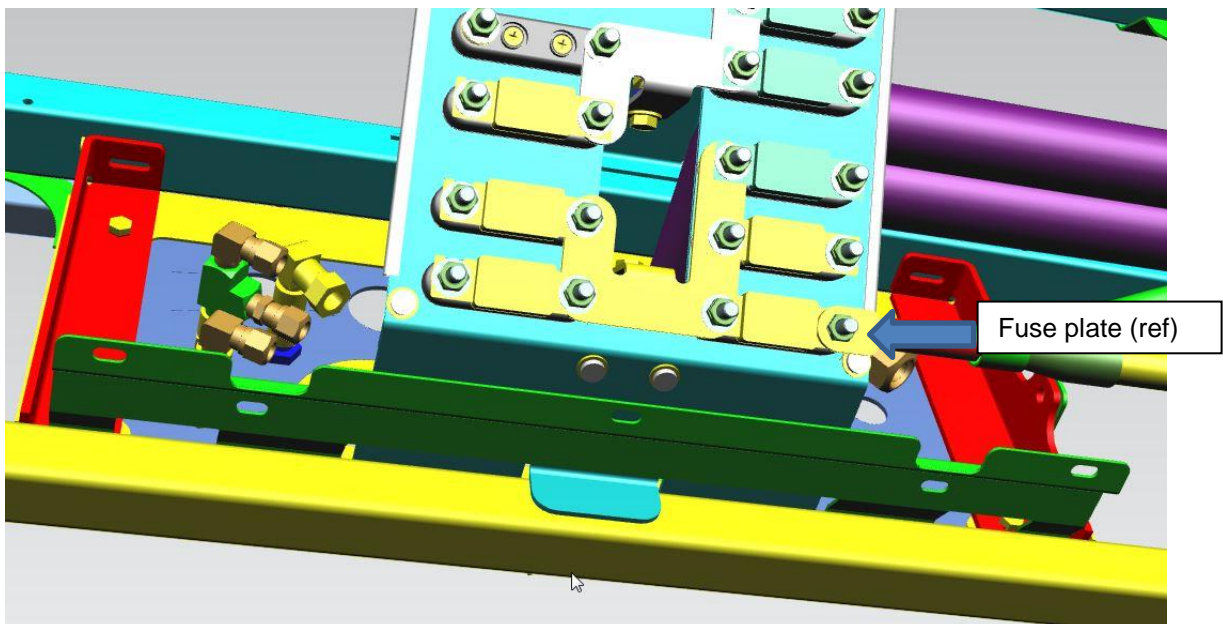

FIGURE 8: VIEW OF FUSE PLATE.
13. If necessary, remove mounting screws on fuse plate & set off to the side. See Figure 8.